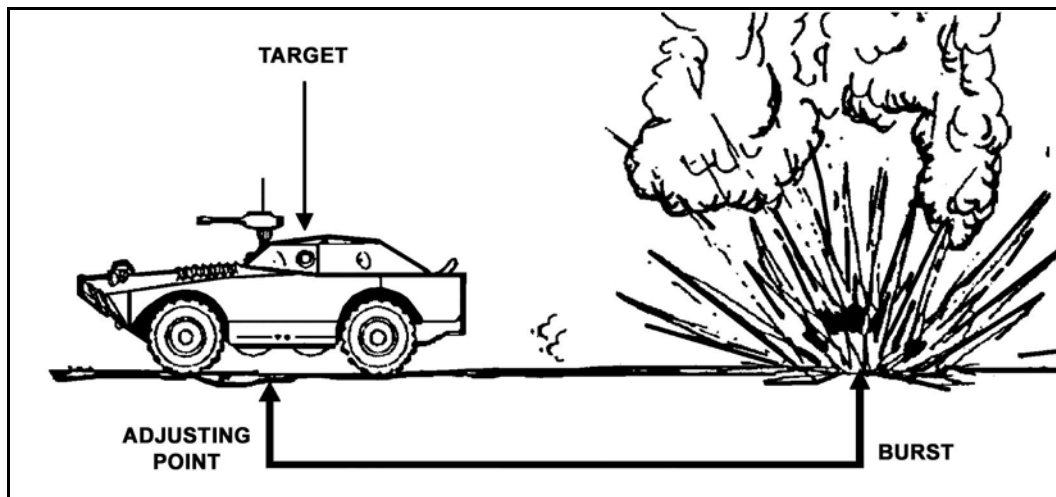
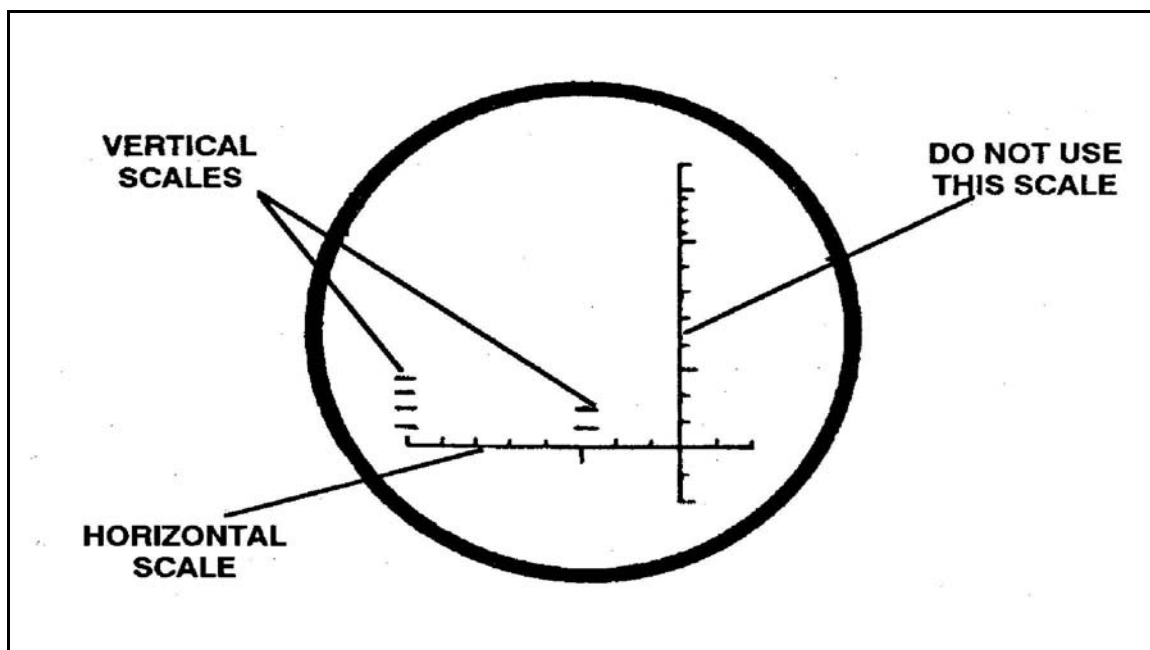
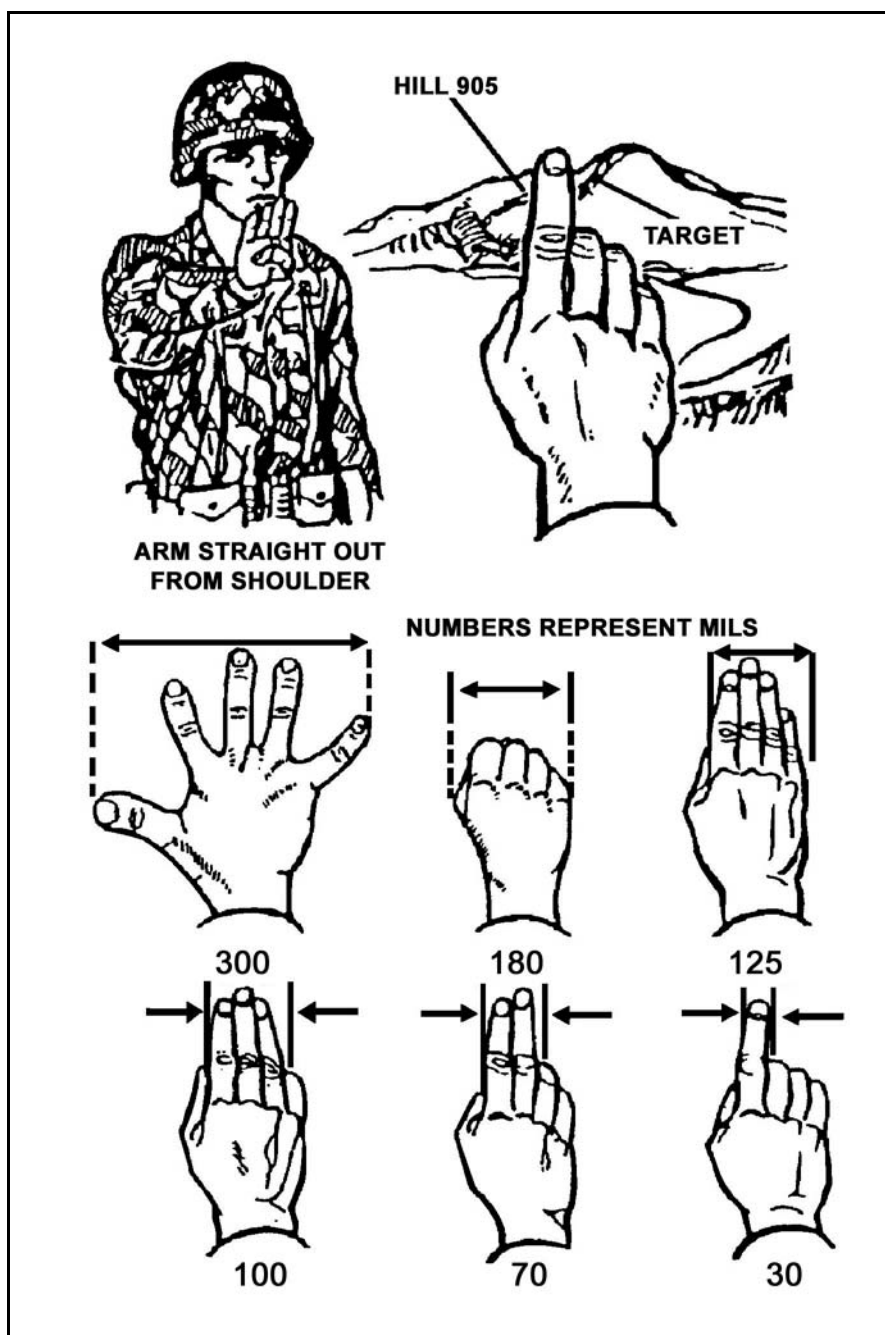

Figure 8-6. Deviation spotting.
Figure 8-7. Mil scale on M17 binoculars.
Figure 8-8. Hand and fingers used to determine deviation.
a. **Deviation Spotting.** Deviation (left or right) spotting involves measuring the horizontal angle (in mils) between the burst and the adjusting point (Figure 8-6, page 8-10). A burst to the right (left) of the target is spotted as "(so many) mils right (left)." The observer uses an angle-measuring device to determine deviation. He might use the mil scale on his binoculars (Figure 8-7, page 8-10) or his fingers and hand (Figure 8-8, page 8-11).